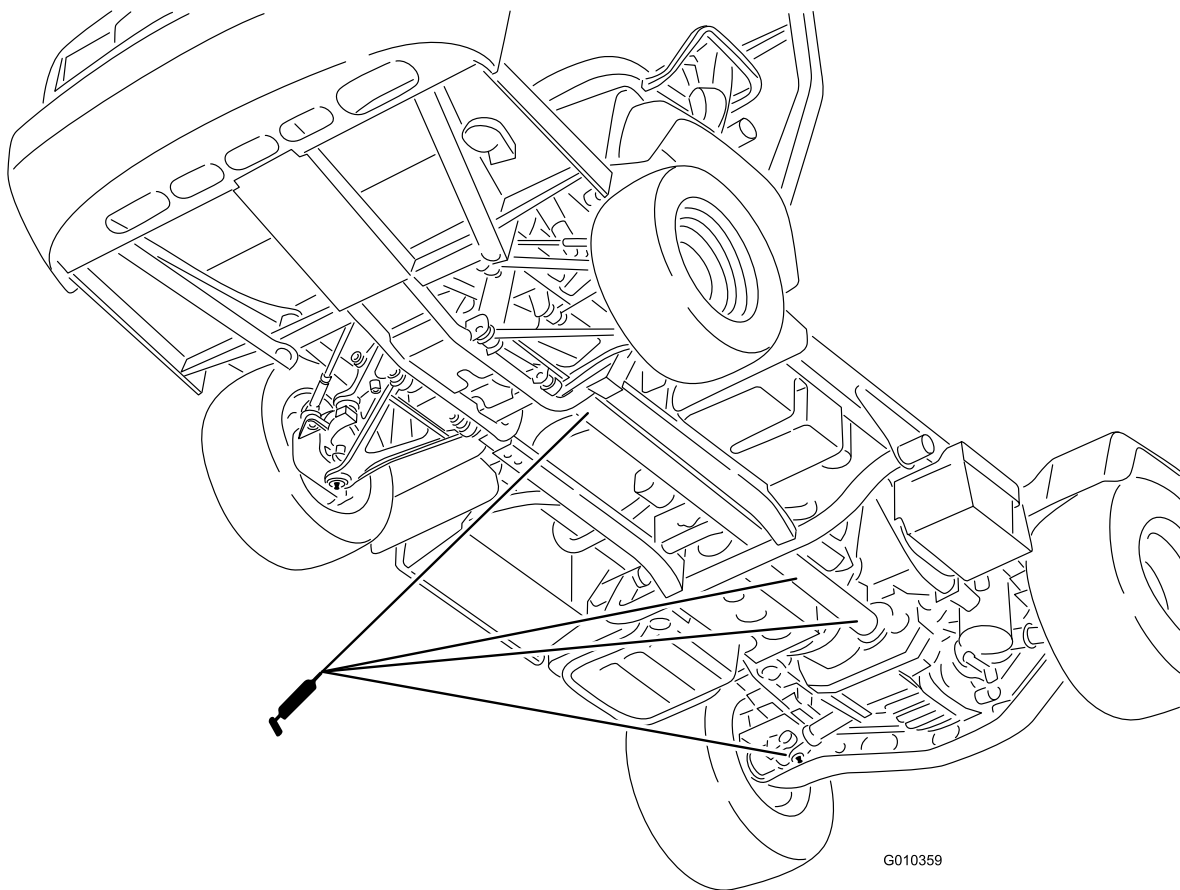

Figure 42
- U-joint (18) and 4 wheel drive shaft (3) (Figure 42)